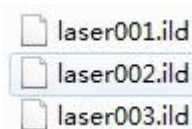

Fig. 4
2.Put the ild format document in “ildfiles” folder. (Caution: The name limited 8 character). For example fig.4